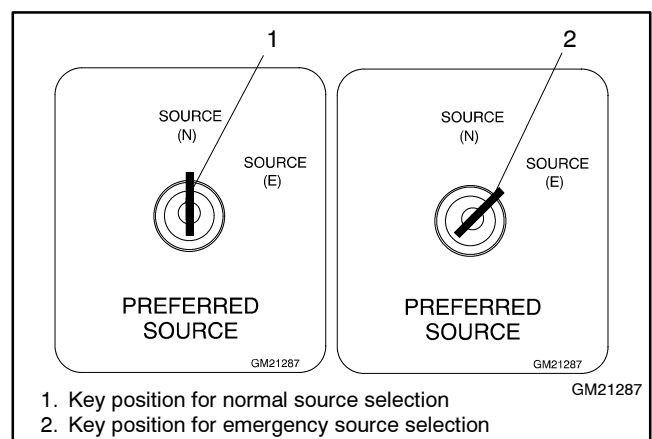

Figure 6 Preferred Source Selector Switch Key Positions
- 2.8 Verify that the key positions correspond to the decal's normal and emergency positions. Rotate the operator assembly as necessary. See Figure 6.